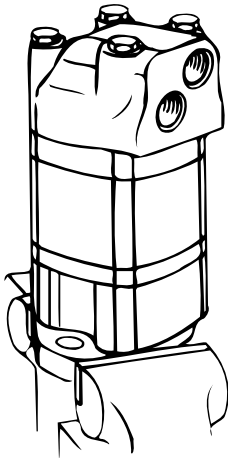

Figure 1.
23. Clamp housing in vise, see Figure 1.